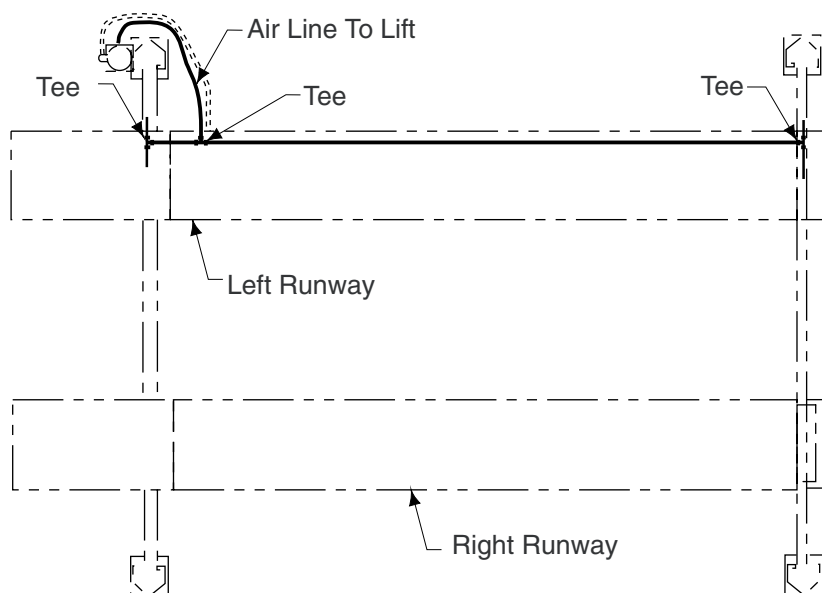

Fig. 22
- D. Run $\frac{1}{4}$ " air line from air valve to the slot in the fixed runway. Cut airline to length required and attach to Tee in runway, Fig. 22.